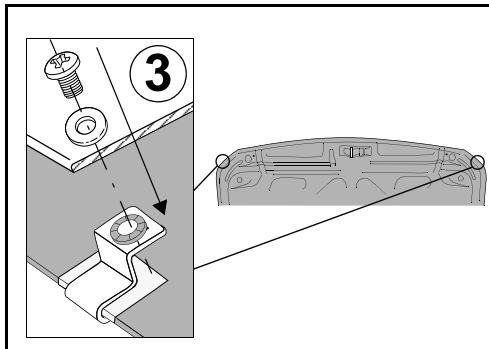

Figure 13. Securing Hood Protector
13. Secure the outer wing sections of Hood Protector to metal clips with the small screws and washers provided, as shown in Figure 13. It may be necessary to slightly slide the wing clips left to right to align the threaded holes with the Hood Protector holes.